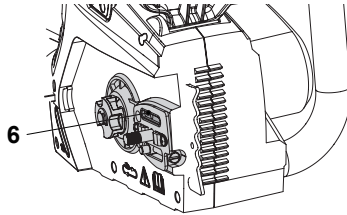

Fig. 39
1. Disassemble the guide bar (12) and saw chain (11) in reversed order from assembly.
2. Check the oiling port (6) for clogging and clean if necessary to ensure proper lubrication of the guide bar and saw chain during operation. Use a soft wire small enough to insert into the oil discharge hole (Fig. 39).